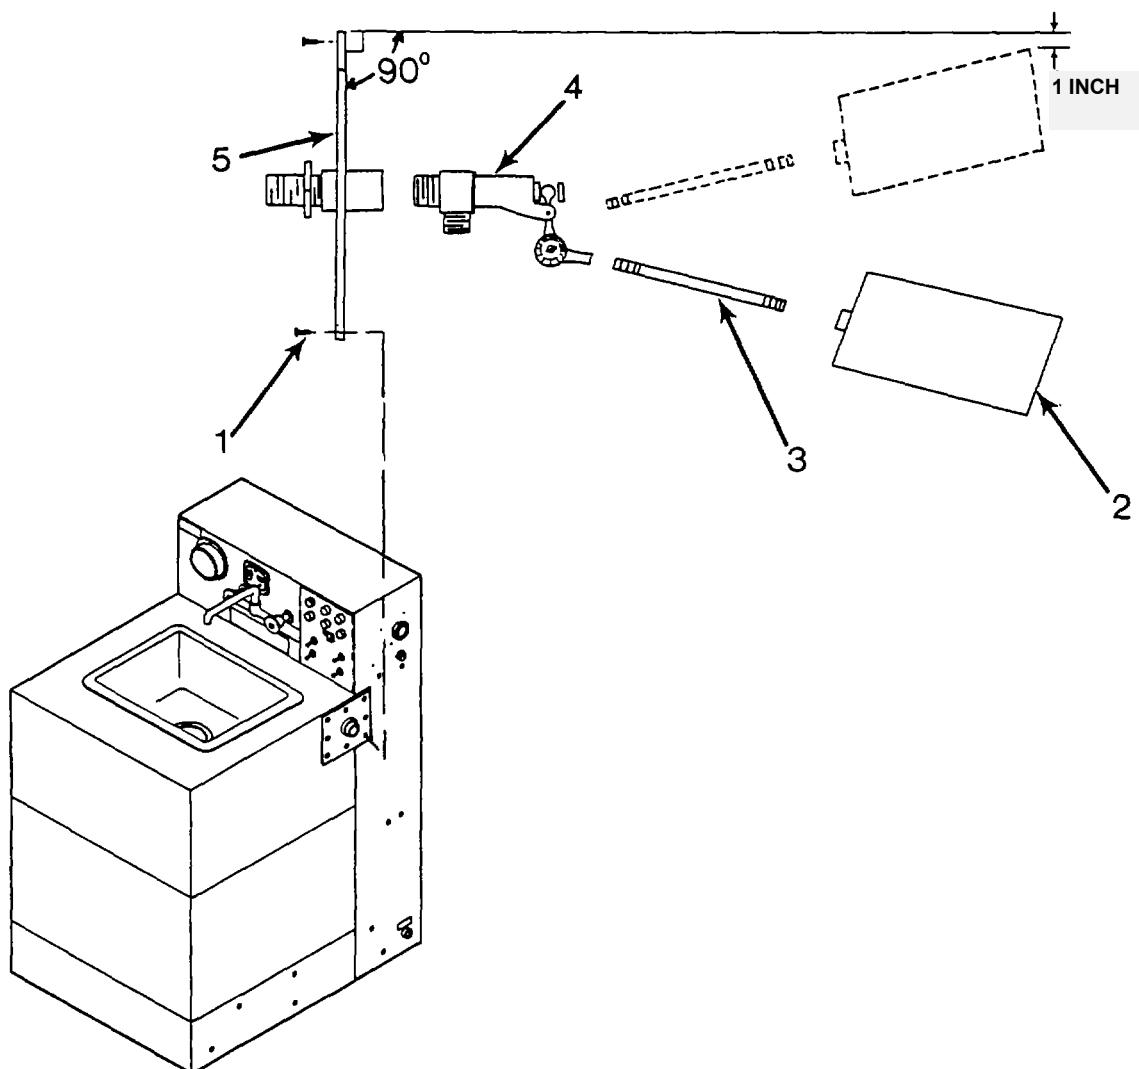

Figure 4-29. Replace Water Float Valve Assembly
m. Repair by replacing water float valve assembly. (See Figure 4-29.)
- (1) Drain fresh water tank. Refer to paragraph 2-14.